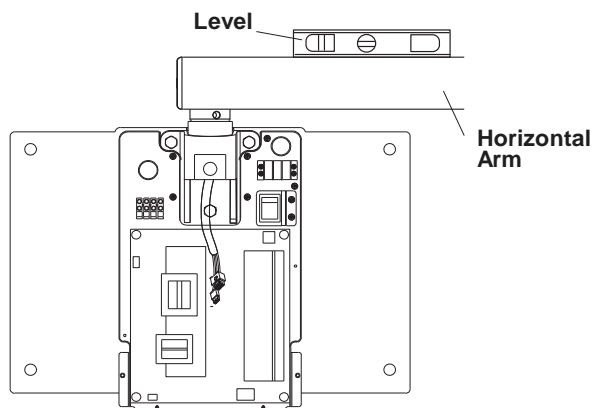

Fig.3-7 Level confirmation
- Place a level on the horizontal arm and confirm that the arm has same positive degree at its left, center and right swing positions. (Fig.3-7)